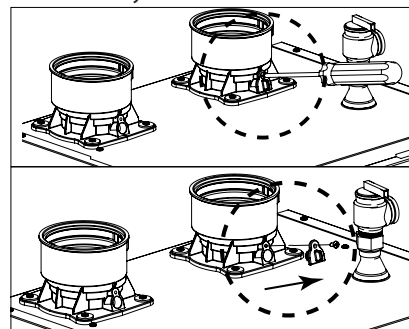

Figure 76 - Combustion Test Port
5. Reinstall the combustion test port - see Figure 76.